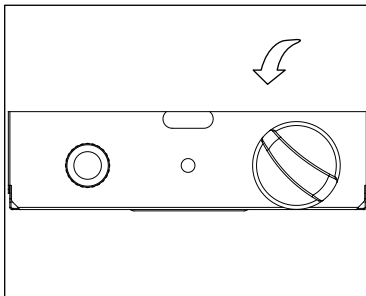

Figure 1
3. Push control knob in and rotate to pilot position or until knob stops (Figure 1).